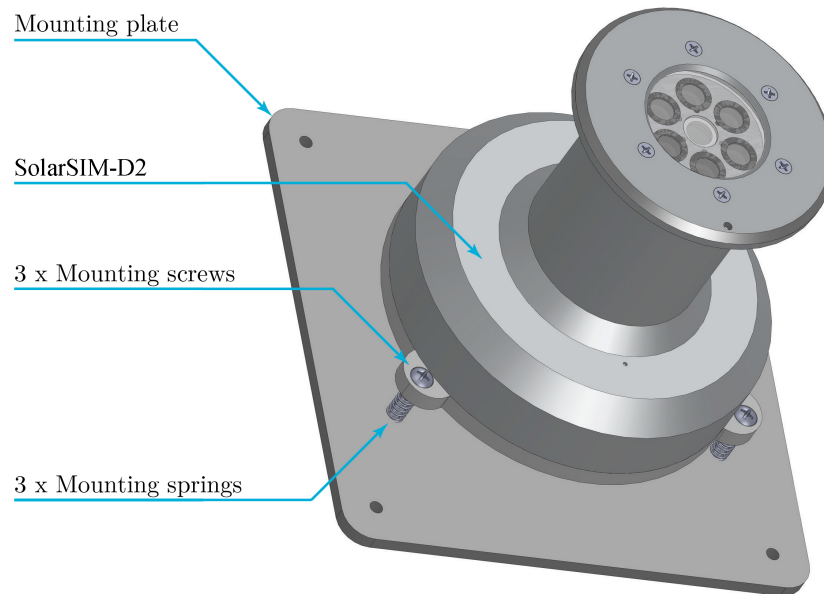
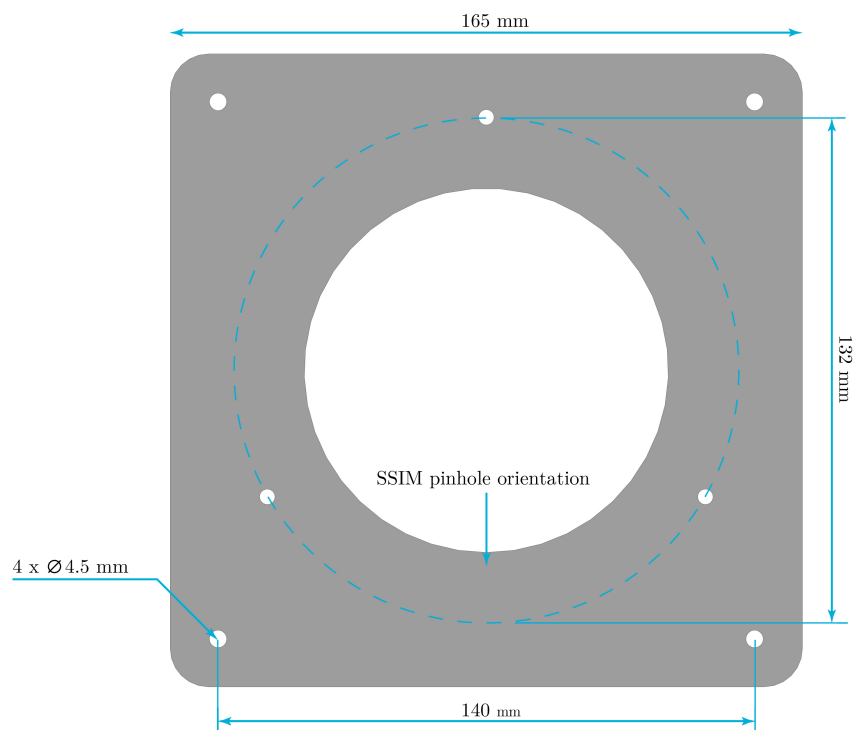

Figure 3: Assembled SolarSIM-D2 on a mounting plate.
Figure 4: Dimensional drawing of a mounting plate.
The SolarSIM-D2 installation requires fastening it to the 165 mm \times 165 mm mounting plate via three M4 screws and springs, as demonstrated in Figure 3. The mounting plate is 4.8 mm thick and has four through holes of 4.5 mm diameter for external fastening, as shown in Figure 4. The screws for external mounting are not provided. The procedure for mechanical installation is described as follows:
1. Place the SolarSIM-D2 on the mounting plate as per Figure 4.